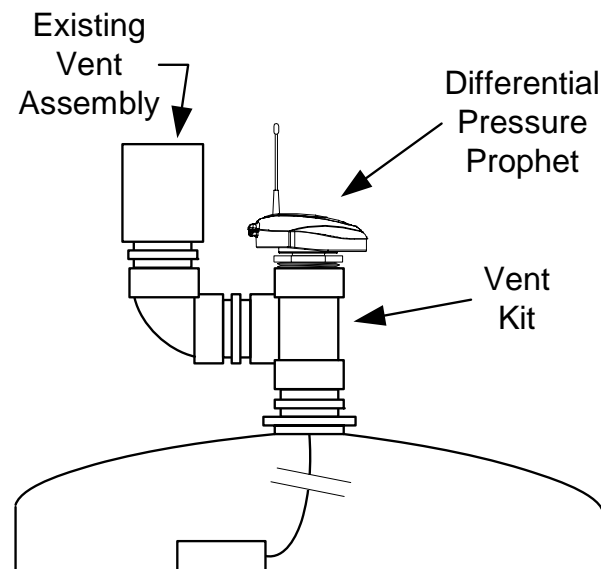

Figure 2
- 2) Assemble the Vent Kit items in the manner shown in Figure 2.
- 3) Install the existing vent assembly onto the 90 Elbow as shown in Figure 2.
- 4) Install the Differential Pressure Prophet onto the top of the Tee as shown in Figure 2.